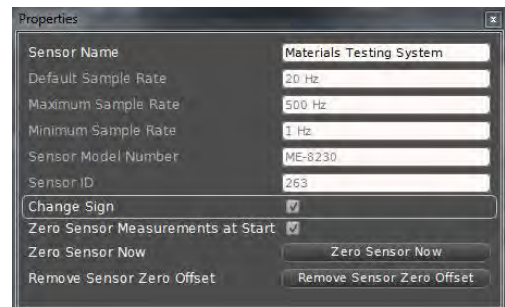

Figure 6: Reversing Sign Convention
1. Open the Hardware Setup in the Tools Palette and click on Properties. You should see a screen similar to that shown in Figure 6.
5. Position the cross-head so that it is *almost* touching the nut. Remember that you want to have zero force on the Force Sensor when you start because it automatically performs a tare. If this causes problems, note that you can disable this feature (see Fig. 6) and zero the sensor if and when you want.